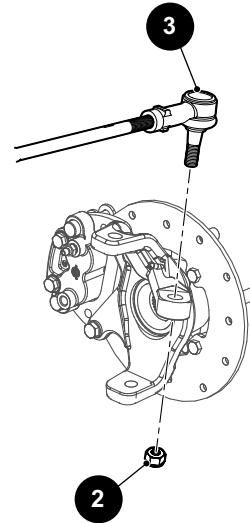
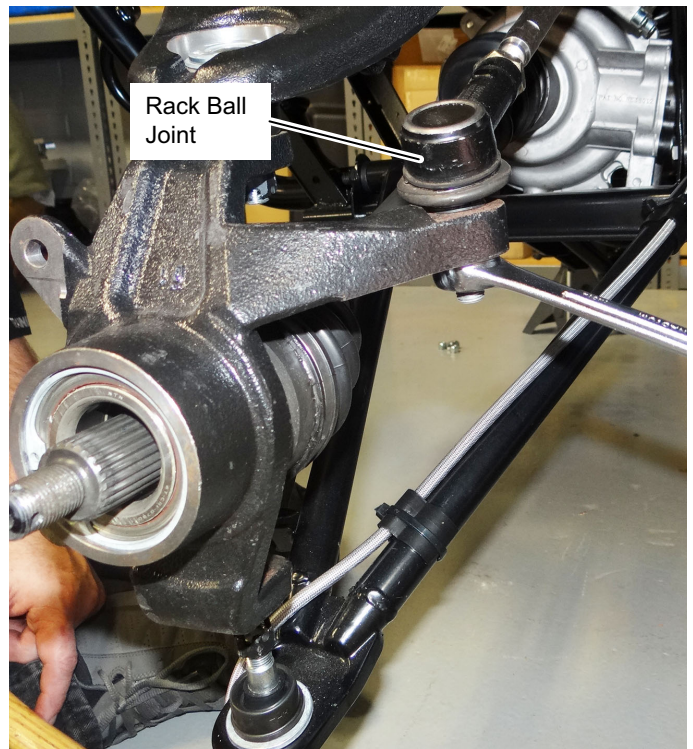

Fig. 5
Fig. 6 Rack Ball Joint
5. Remove the nut (2) that secures the spindle to the steering rack ball joint (3) (Ref. Fig. 5)(Ref. Fig. 6). Tap the spindle assembly with a hammer to separate it from the ball joint.